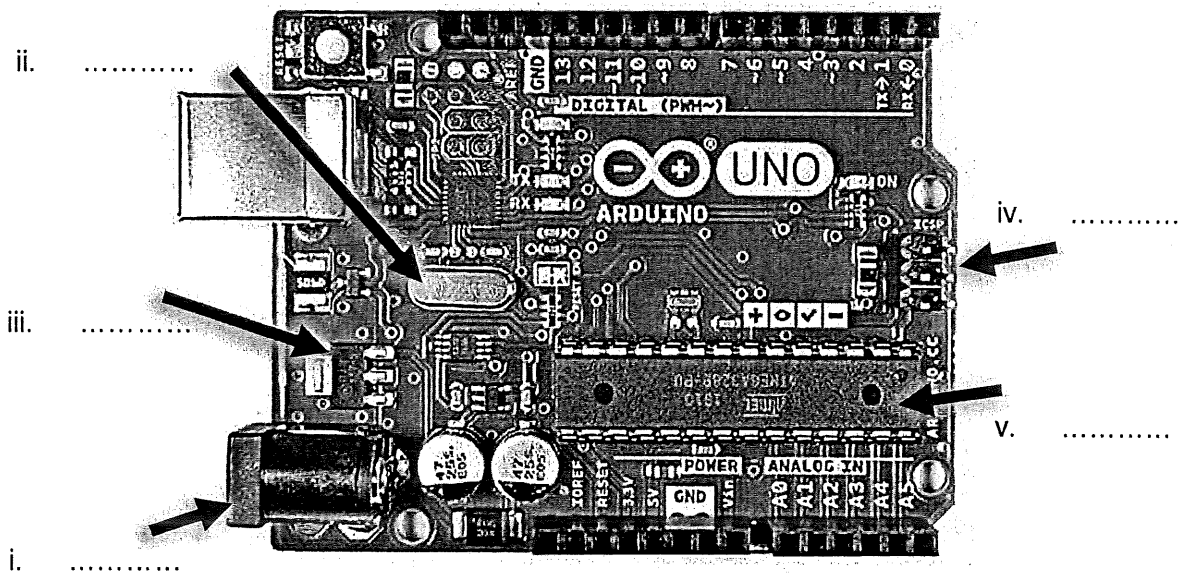

Figure 1
- d) Label the following component on Arduino Uno board shown on Figure 1: (5 marks)